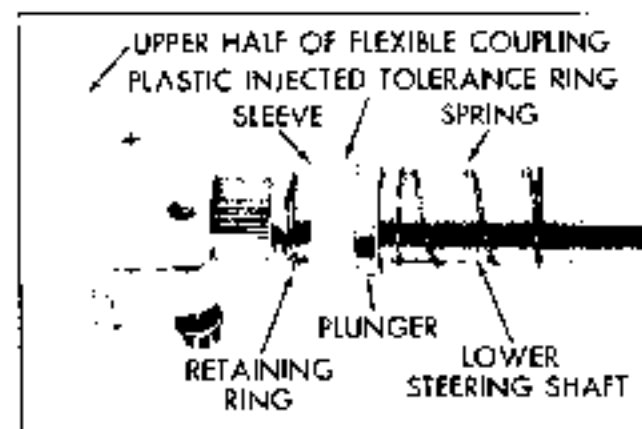

Fig. 9-27 Removal of Lower End
NOTE: On Tempest models assemble lower steering shaft and put joint to upper steering shaft. Tighten clamping nut to 32 lb. ft. (Fig. 9-27).
15. Remove steering shaft from column by sliding shaft out upper end of column. On Pontiac and Firebird models it will be necessary to remove a snap ring, plastic tolerance ring and lower bearing preload spring prior to removing steering shaft (Fig. 9-27).